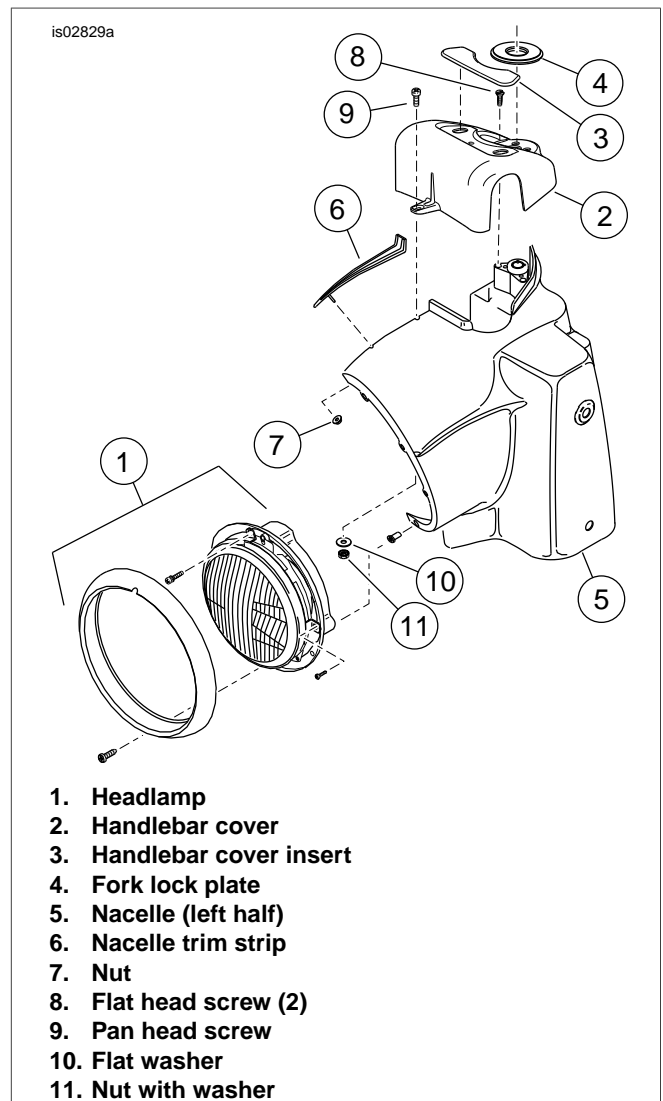

Figure 5. Nacelle, Headlamp and Handlebar Cover (FLHR/C Shown)
- See Figure 5. Reach inside the headlamp nacelle (5), remove the flange nut (7) to release the trim strip (6) at the top of the nacelle.
For Australia, Brazil, England, Europe and Japan: See Figure 5. The flat head screws (8) have break-away heads and are not easily removable. To remove screws with break-away heads, make a pilot hole in the top of each screw with a center punch and back out the screw with a 1/8 in (3 mm) left-hand drill bit.